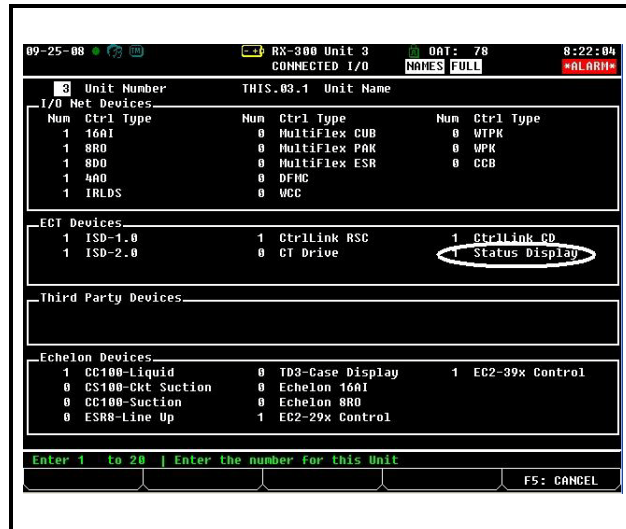

Figure 3-1 - Connected I/O Screen (E2 firmware versions 2.80 and below)
- If using an E2 controller with firmware version 2.80 or below, cursor down to **ECT Devices** section and then add the desired number of **Status Display** devices (*Figure 3-1*).